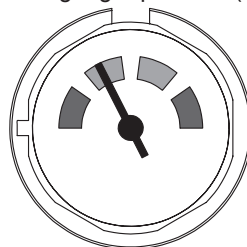

Fig. 2.2
If the pressure reading on the pressure gauge is below that shown in Fig. 2.2, then the system will require topping up. A filling loop is normally provided by the Installer for this purpose.
- Open the valves on the filling loop and, at the same time, check the heating circuit pressure on the pressure gauge. The correct pressure value when the system is cold must be within the first green bar on the pressure gauge quadrant (Fig. 2.2).